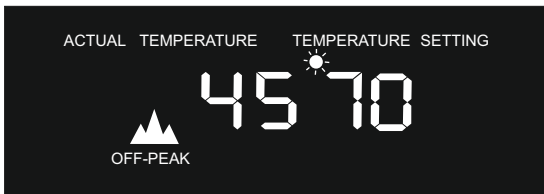

Fig. 4
(1) Clock Setting: First press the "Clock Setting" button for 3 seconds to enter clock setting mode (as shown in Fig. 4). The hour field will flash first. Set the numbers by pressing "▲" or "▼" button. The set hour will increase/decrease by 1 for each time the "▲" or "▼" button is pressed. During flashing period, press the clock button again to enter clock "Minute" setting mode, the minutes display will flash. Set the numbers through "▲" or "▼" button. If the button is pressed without pause, the numbers will increase/decrease continuously. The hour number setting range is between 0-23 and the minute number setting range is between 0-59.
- (2) Clock View: You can know the time by pressing the "Clock Setting" button in power on mode. The time will display for ten seconds, then return to temperature display mode.